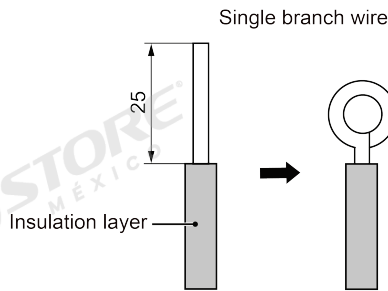

Fig 5.1
- (1) The connection of wire (as shown in fig 5.1)